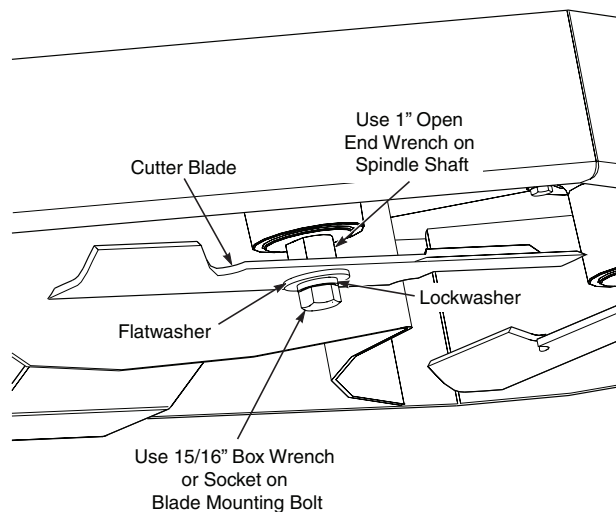

Figure 1. Blade Removal
3. Remove the original cutter blades from the cutter deck. To remove the cutter blades from the spindles install a 1" open end wrench on to the flats provided on the spindle shaft. This will allow you to hold the spindle in place and prevent it from rotating as you remove the blade mounting bolt. Use a 15/16" box wrench or socket to remove the blade mounting bolt. Be sure to retain the bolts, lockwashers and flatwashers. This hardware will be needed when installing the mulching blades in step number 12. See Figure 1.